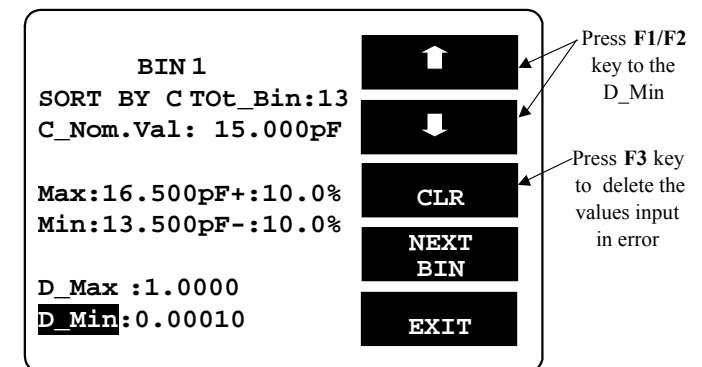

Figure 8-22
- Set the smallest D value of secondary parameter. Please refer to Figure 8-22.